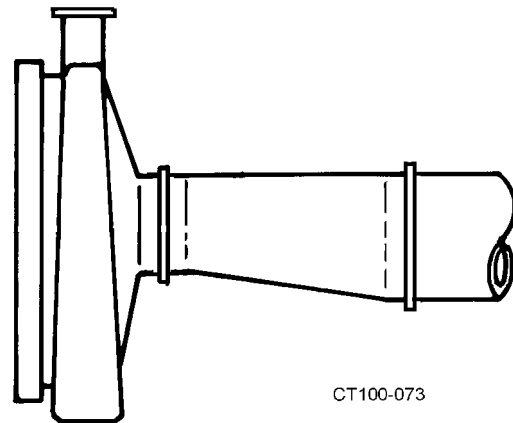

Figure 8 - Correct Eccentric Installation
- If a reducer is connected to inlet, use eccentric type to prevent problems due to trapped air. See Figure 8.